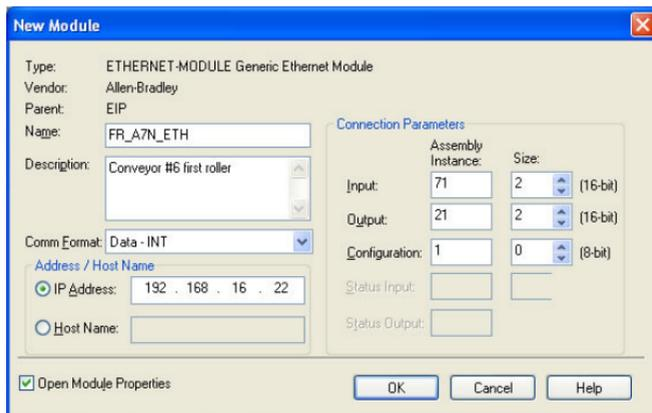

Figure 87: AC/DC Drive Profile Generic Ethernet Module Configuration
- 1) Complete all the steps in section 8.2.4. Please note that the Assembly Input Instance must be changed to 71 and the Assembly Output Instance must be changed to 21. Refer to Figure 87.